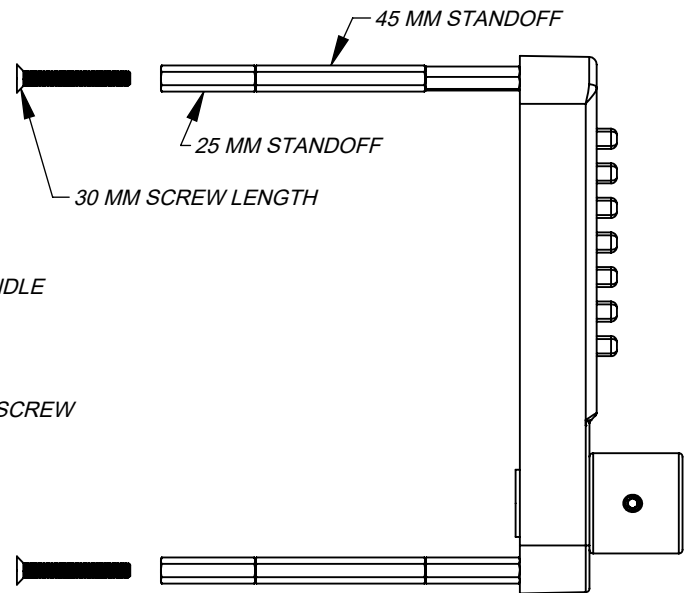

Figure 14
3) The KYPD-ADAPTER comes with additional threaded standoffs to use to reach as close as possible to the holes in the inside face of the gate. Included are (2) 45 mm (1.77") long and (6) 25 mm (0.98") long standoffs, as well as (2) M4 x 40 mm (1.57") flat head phillips screws. Included with the KYPD are (2) M4 x 30 mm (1.18") flat head phillips screws. Select the appropriate standoffs and screws as shown in Table 1.
4) Attach standoffs selected in Step 3 to the standoffs attached to the KYPD in Step 2. An example of a case using a KYPD 2-sided for a 3" gate frame is shown in Figure 14. Do not attach the screws until Step 6.